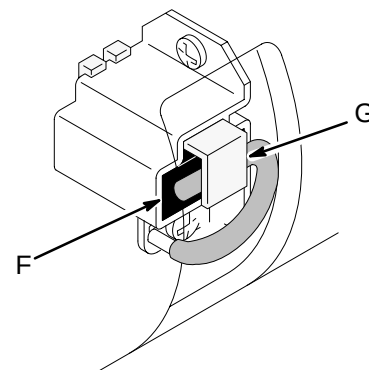

Fig. 17 01066
7. Holding the spring/clip (G) at a slight angle, slide the spring/clip into the brush holder (B) and hook it over the end of the brush holder. See Fig. 17. Pull on the spring/clip to be sure it stays in place. Be sure the brush lead (D) is tucked under the spring/clip tab.